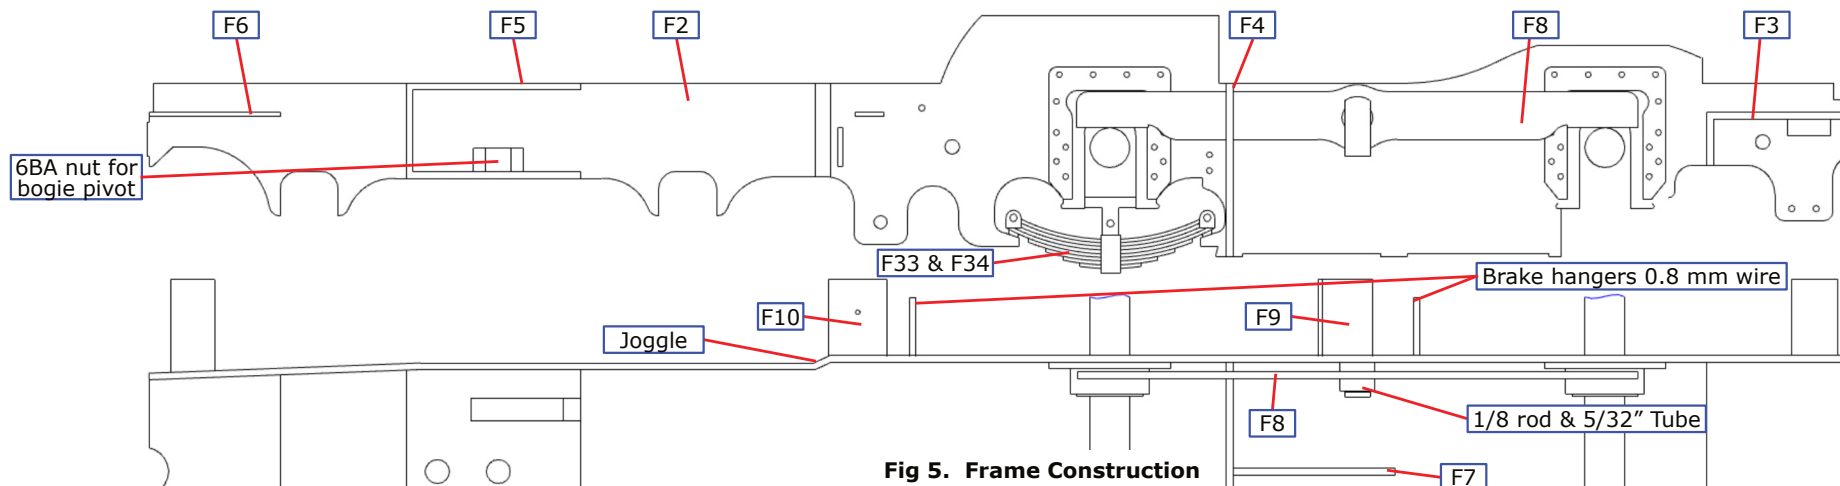

Fig 5. Frame Construction
**Inside Springs.** The inside springs can be fitted now but they will trap the leading axle axleboxes in the horn guides. Solder together the three laminations of the inside frame springs (F33 & F34) before fixing in place inside the spring hangers (See Fig 5).